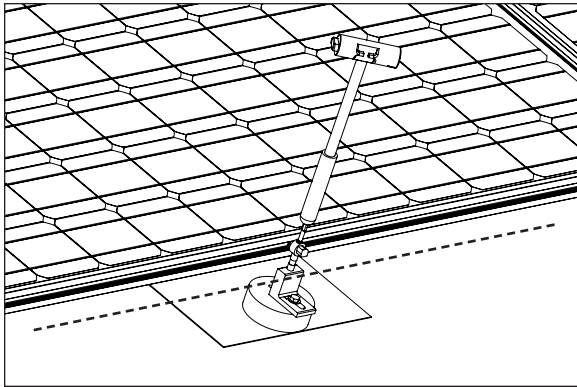
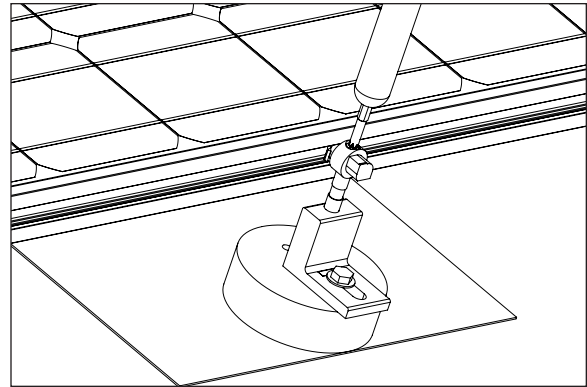

Figure 5.9A
Figure 5.9B
2. Next, use a laser level, string line or careful eye to determine if height adjustment is necessary (Figure 5.9A). Use the Zep Tool or a drill with a T30 Torx bit to raise (*counter-clockwise*) or lower (*clockwise*) the height at the Leveling Foot (Figure 5.9B).